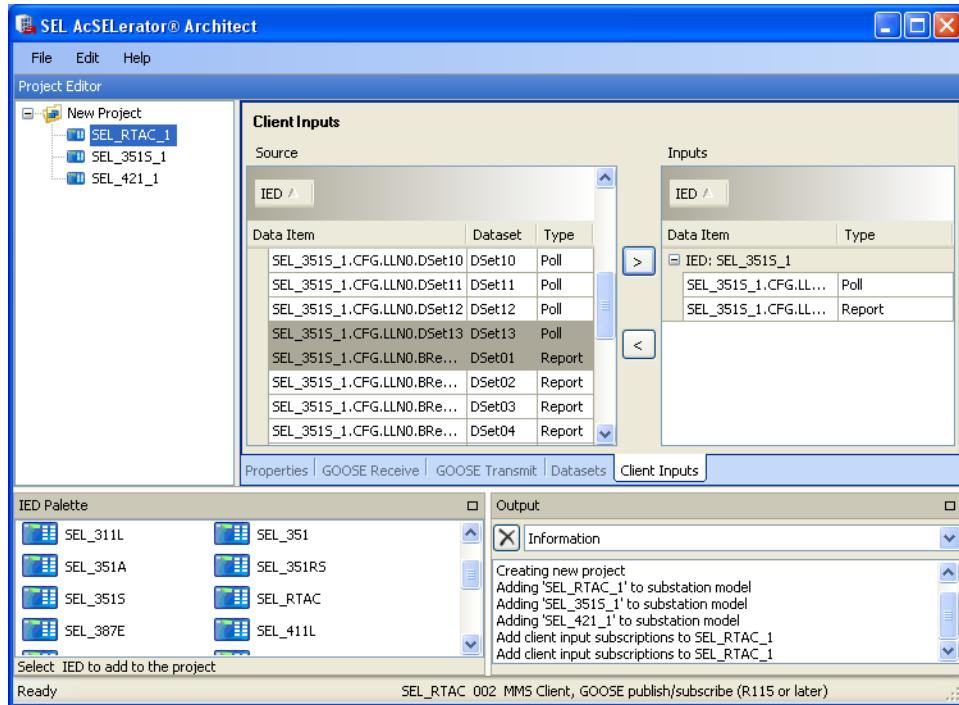

Figure 2.47 Configure IEC 61850 Messages
- Step 6. For MMS client configuration, click the **Client Inputs** tab. The Project Editor pane will display all DataSets and reports available from the IEDs. From the **Source** window, select the DataSets and reports you want the RTAC to gather from the IEDs and move these to the **Inputs** window tab. See *Figure 2.47*.